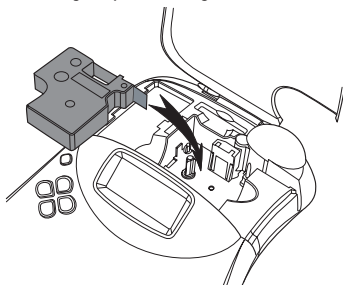

Figure 5
2. Insert the cassette with the tape and ribbon positioned between the guideposts. See Figure 5.